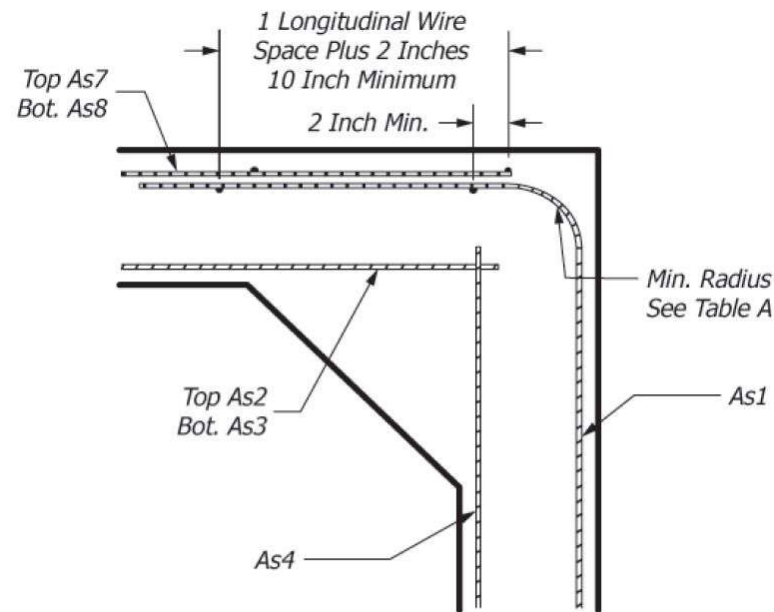

FIG. 5 Detailed Reinforcement Arrangement
7.4 Laps, Welds, and Spacing—Splices in the circumferential reinforcement shall be made by lapping. The overlap measured between the outermost longitudinal wires of each reinforcement sheet shall not be less than the spacing of the longitudinal wires plus 2 in. but not less than 10 in. If As1 is extended to the middle of either slab and connected, welded splices are not prohibited in the connection. When used, As7 and As8 shall be lapped with As1 as shown in Fig. 5 or Fig. 6 (see also Fig. 7 and Fig. 8). If welds are made to circumferential reinforcement, they shall be made only to selected circumferential wires that are not less than 18 in. apart along the longitudinal axis of the box section. Also, when spacers are welded to circumferential wires, they shall be welded only to these selected circumferential wires. There shall be no welding to other circumferential wires, except it is not prohibited for As4 to be lapped and welded at any location or connected by welding at the corners to As2 and As3. No welds shall be made to As2 or As3 circumferential wires in the middle third of the span. (See Fig. 9 for welding restrictions.) When distribution reinforcement is to be fastened to a cage by welding, it shall be welded only to longitudinal wires and only near the ends of the box section. The spacing center to center of the circumferential wires shall not be less than 2 in. nor more than 4 in. The spacing center to center of the longitudinal wires shall not be more than 8 in.